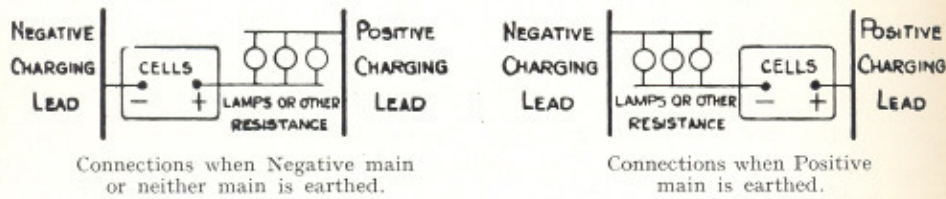

FIG. 2.
Incandescent lamps or radiator elements are convenient for this purpose. To find the size in watts of lamps or radiators required for use as resistances, multiply the voltage of the mains by 4. If carbon filament lamps are used, the candle power required is similar to the voltage of the mains. For example, on 200 volt mains, the watts taken by the lamps or elements connected in parallel (Fig. 2) should be 800, or the total candle power of carbon filament lamps 200.
(21) **Limit the current** to a value not exceeding 4 amperes by varying the lamps or other resistance (par. 19) in series with the battery (Fig. 2.)